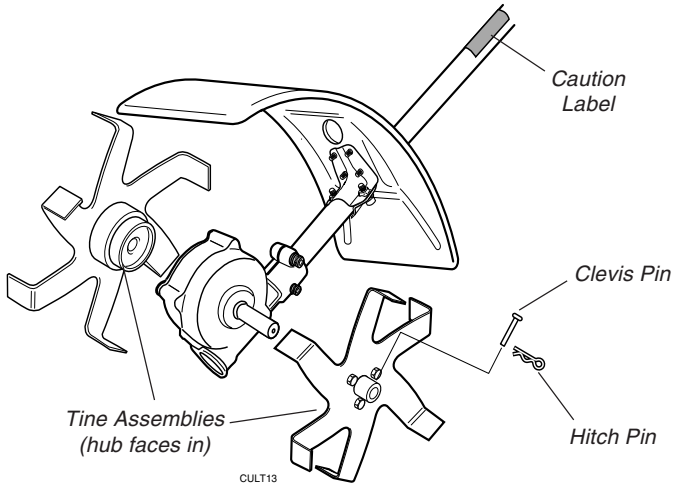

Figure 13
2. Secure each tine assembly with one clevis pin and one hitch pin as shown in Figure 13.
3. Apply the caution label to the outer tube as shown in Figure 13.